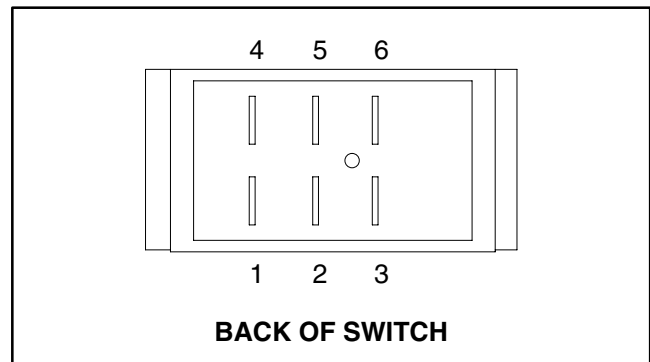

Figure 3
2. The switch terminals are marked as shown in Figure 3. In the ON position, continuity should exist between terminals 2 and 3 and also between terminals 5 and 6. In the OFF position, continuity should exist between terminals 1 and 2 and also between terminals 4 and 5.